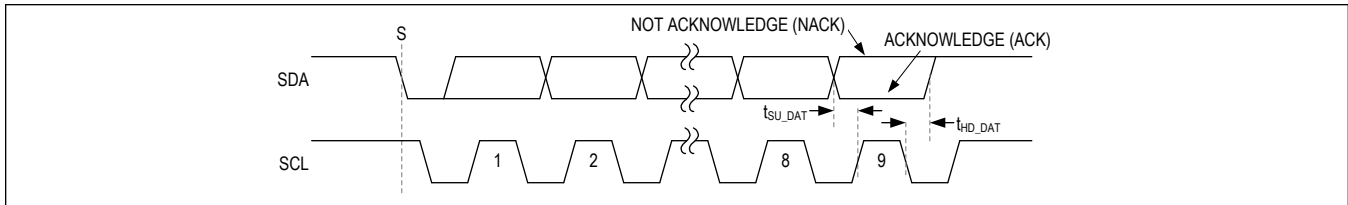

Figure 16. Acknowledge Bit
Both the I2C bus master and this device generate acknowledge bits when receiving data. The acknowledge bit is the last bit of each nine-bit data packet. To generate an acknowledge (A), the receiving device must pull SDA low before the rising edge of the acknowledge-related clock pulse (ninth pulse) and keep it low during the high period of the clock pulse. See Figure 16. To generate a not acknowledge (nA), the receiving device allows SDA to be pulled high before the rising edge of the acknowledge-related clock pulse and leaves it high during the high period of the clock pulse.